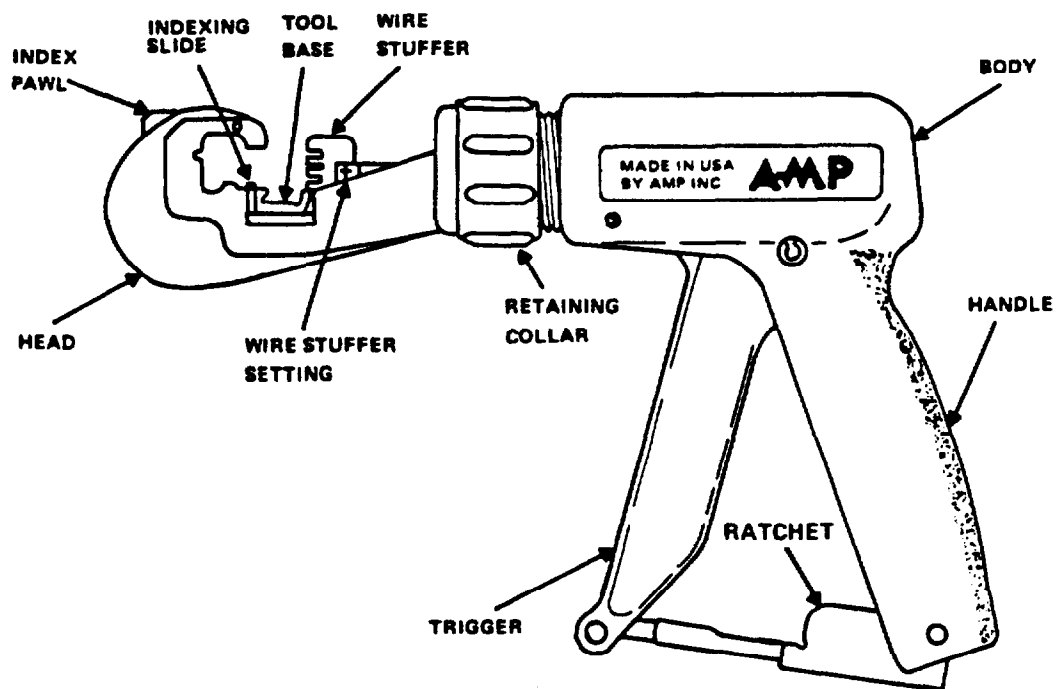
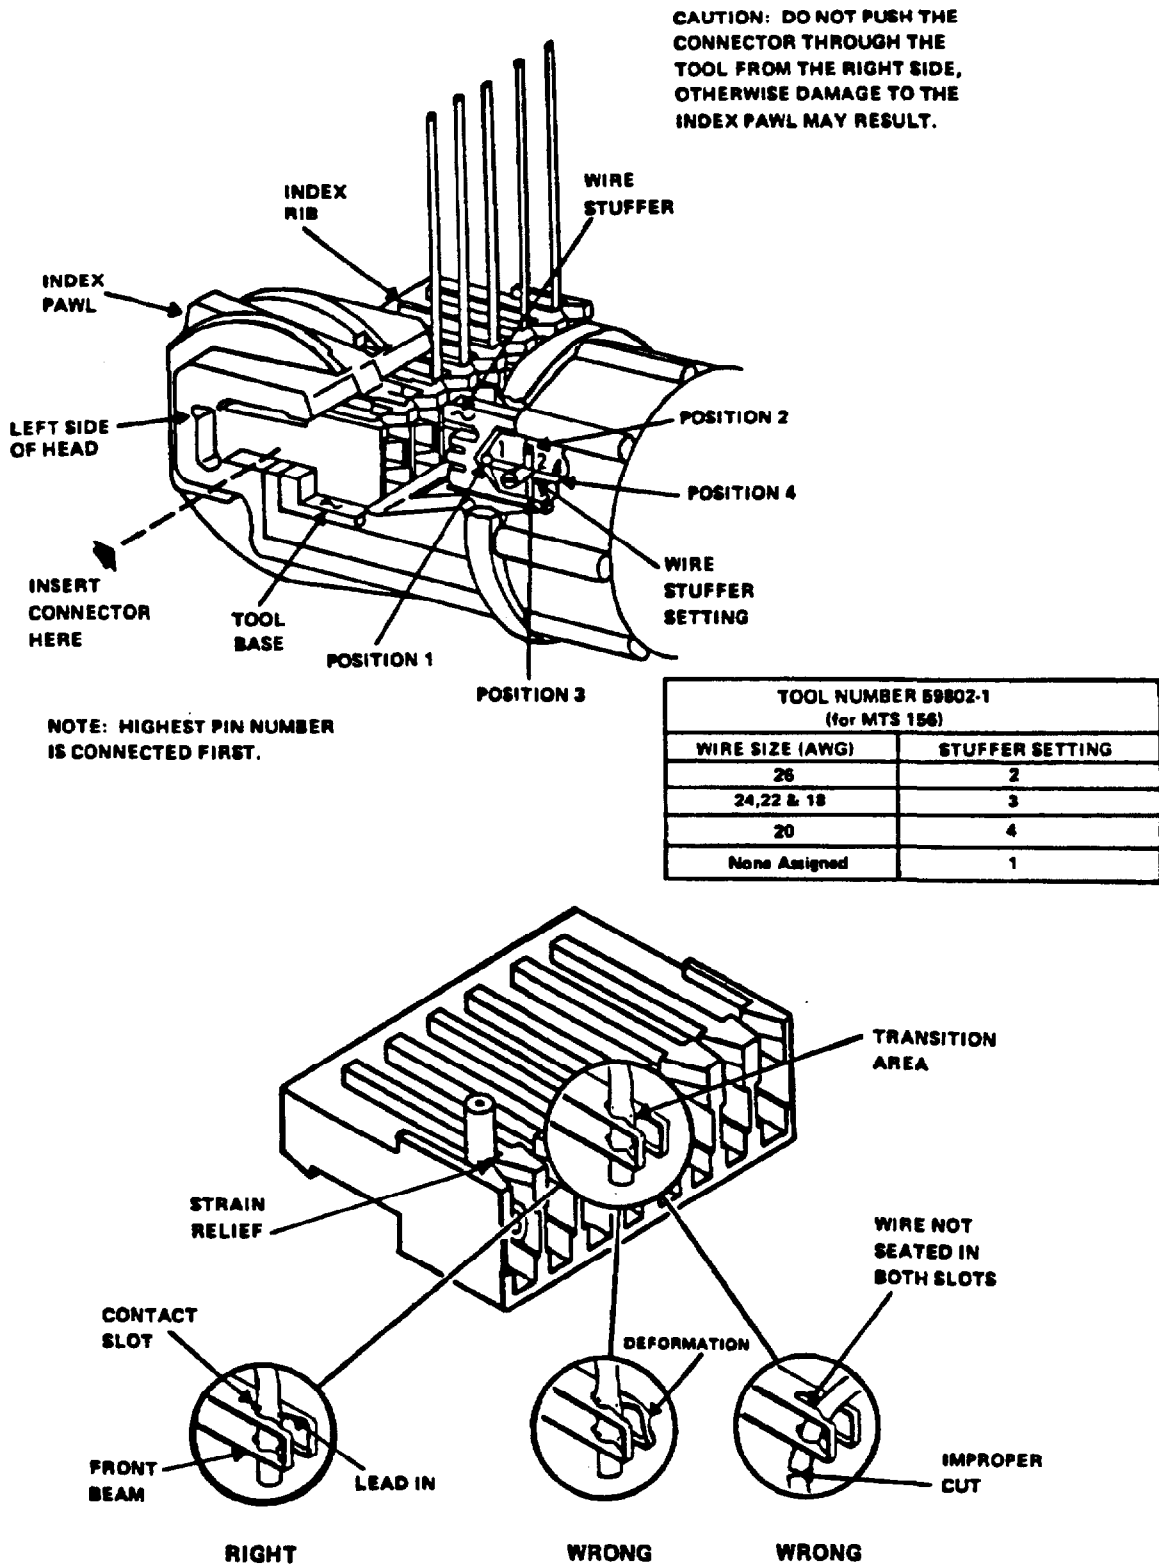

Figure 1-12. MTA Pistol Grip Tool (8710-1303)
Figure 1-13. MTA Pistol Grip Tool Termination Procedure and Contact Inspection
At the unterminated end of the SDN cable, apply connector kit HP 1251-7925 with AMP Mass Termination Assemblies (MTA) **pistol-grip insertion tool** HP 8710-1303 (Figure 1-12).
Note The wire size is AWG 22 (stranded), so select stuffer setting 3 on the tool (Figure 1-13).
- a. Insert the connector into the left side of the tool head, as shown in Figure 1-13.
- g. Inspect **each termination** using the following standards (Figure 1-13):
Tool 8710-1303 (Figure 1-12) terminates wires in connectors of the AMP Mass Termination Assemblies (MTA), using the AMP displacement terminating technique. This method is used to insert unstripped wire into a slotted contact beam to form a reliable electrical connection between the conductor and contact. Tool 8710-1303 (AMP 59802-1) is designed for connectors with 0.156 contact centers (MTA-156 system).
The features of the pistol-grip tool are shown in Figure 1-12 and Figure 1-13.